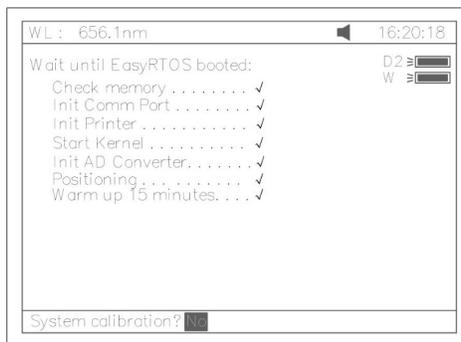
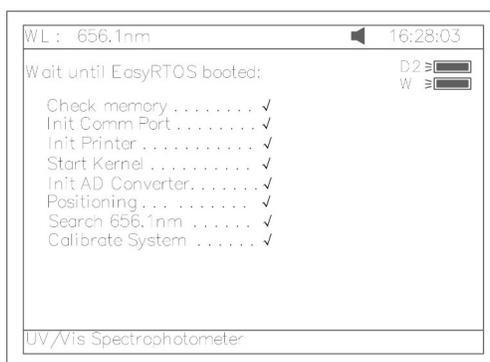
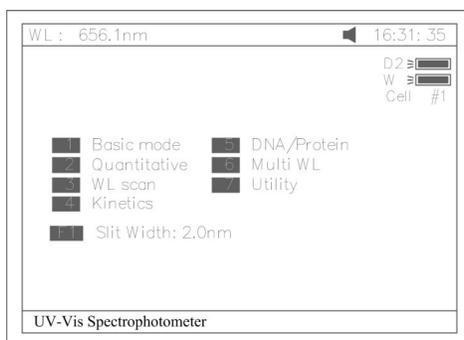
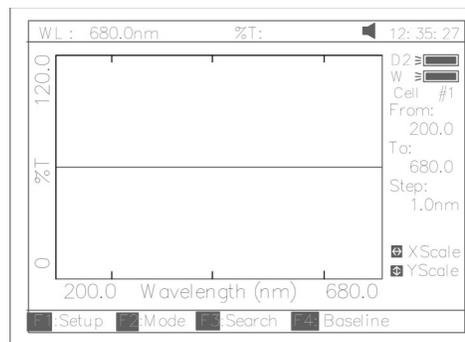

Fig 5
Fig 6
Fig 7
Fig 13
minutes pass or press 【ESC】 , the screen display as Fig 5,Select “No” to skip to main menu( Fig 7) and select “Yes”(recommended) to calibrate system (Fig 6).The calibrating process include “get dark current”, “searching 656.1nm” and “check energy”. After finish the calibration system, go to main menu too (Fig 7).
3. If no auto-cell changer installed “cell #1” will disappear in Fig7
There is a system baseline stored in the memory of the instrument. Usually user may not rebuild system baseline before test. Only putting the sample into the sample light path and the reference into the Reference Light Path, the result can be obtained. As the system baseline always get a little change after the instrument is powered on, it is necessary for the user to rebuild the system baseline. There are a couple of ways to rebuild the system baseline. Select “Yes” in Fig 5 or Press **【 0】** In Fig 73 or Press **【F4】** In Fig41,
Press **[3]** in Fig.7 go into “WL scan”. After **[LOAD]** being pressed, the first file (ABC.wav)in memory will appear on the bottom line of screen .Showed as Fig 13.
Push the blank cuvette into the Reference Light Path and Main Light Path. In main menu (Fig7), press